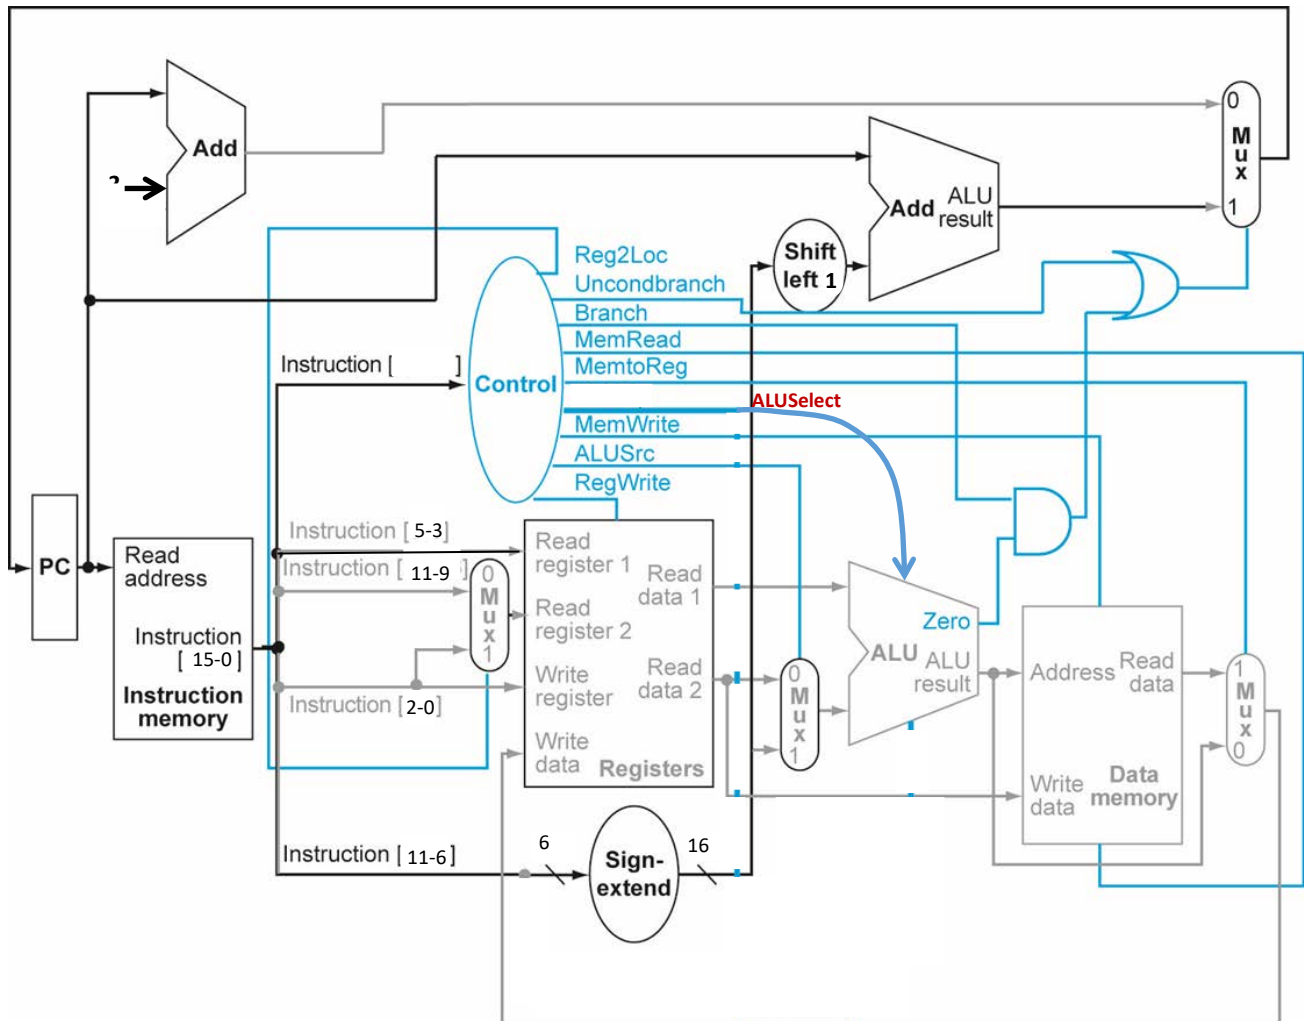
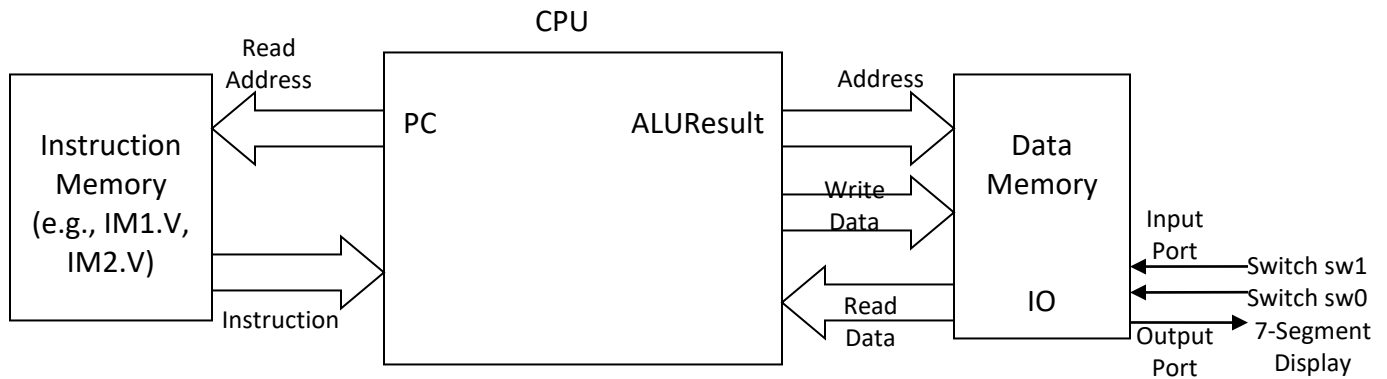

Figure 1. Single cycle LEGLite block diagram.
Figure 4. Block diagram of the computer, clock not shown.
Figure 1 has the circuit diagram for the single cycle LEGLite. Not shown is the clock inputs and the reset input, where the reset input will clear the program counter (PC) to 0.
To simplify the block diagram in Figure 1, we can organize the program counter (PC) and all the circuitry that controls it into a single block, shown in Figure 2. We refer to this block as PC Logic. Note that the PC Logic is a synchronous sequential circuit. It has the output PC, which is the PC value. It has as inputs:
Figure 4 shows a block diagram of the computer. There is the CPU, instruction memory, and data memory, which includes I/O. Note that the CPU is basically all the components in Figure 1 except the instruction and data memories. The following is a description of the instruction and data memories.
The data memory also has an I/O subcomponent which is connected to two switches and a 7-segment display. The two switches are labeled in Figure 4 as sw0 and sw1. These are inputs to the computer. The 7-segment display is connected to the output of the computer.